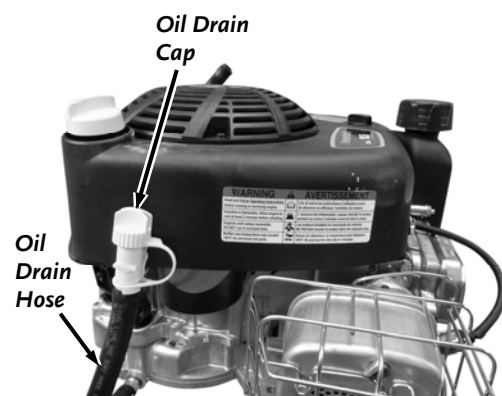

Figure 20
1. Pull Down on the Oil Drain Hose to disconnect the Clip from the Engine Cover (**Figure 20**).